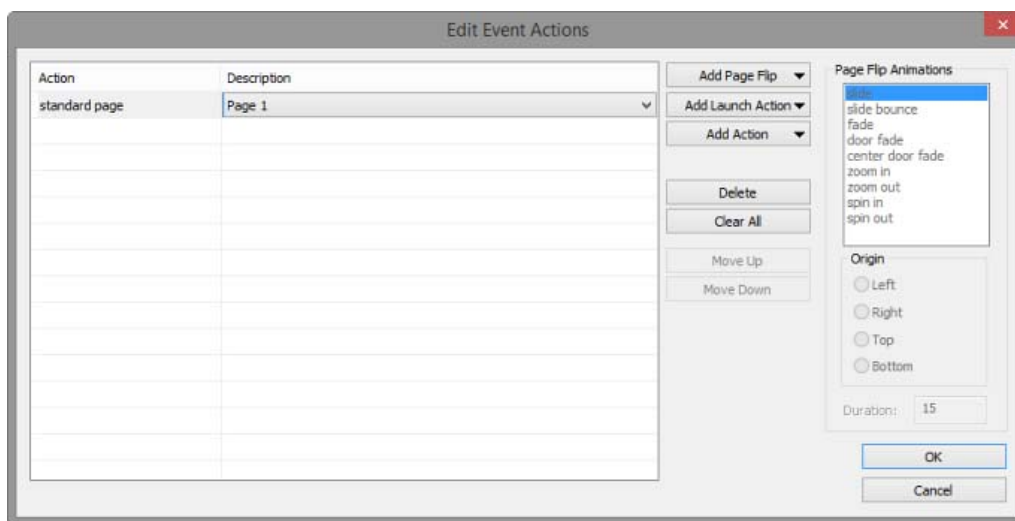

FIG. 381 Edit Event Actions dialog indicating a Standard page flip
5. The selected type of *Page Flip* is added to the *Action* column - in this example, a *Standard* page flip (FIG. 381):